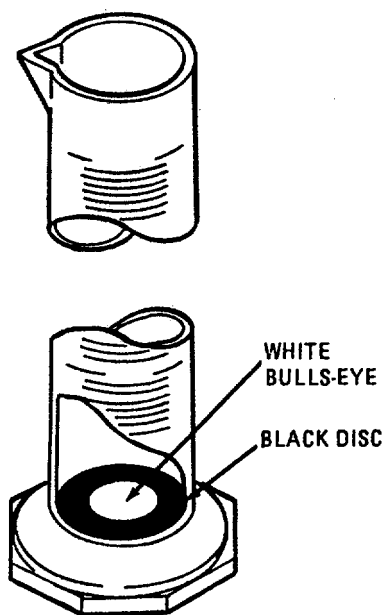

FIGURE 2-12. TURBIDITY TUBE
m. Turbidity Tube. The turbidity tube (figure 2-12) is used to see how clear the filtered water is.